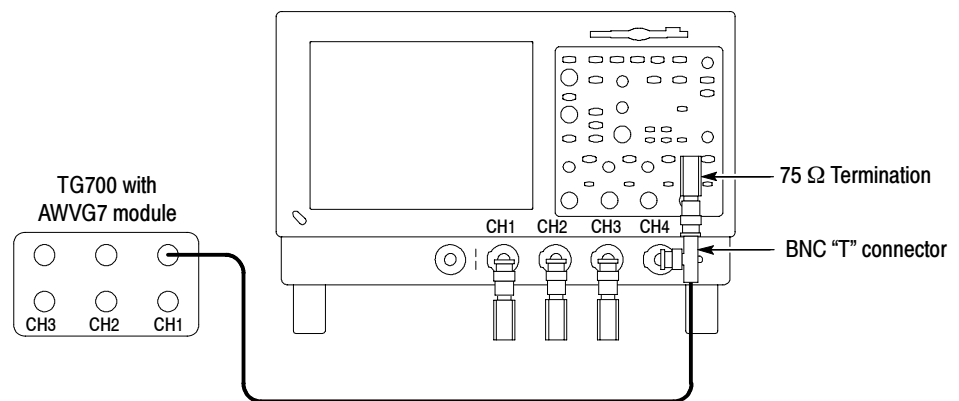

Figure B-1: Noise floor accuracy test hookup
1. Connect the instrument to the test signal source. Refer to Figure B-1 while doing the following steps: